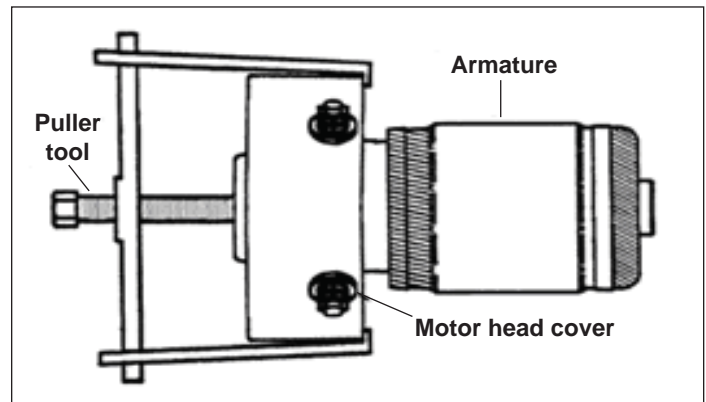

Figure 9-4. Removing Motor Head
- Place puller around the motor head. Use the center of the shaft to locate puller. See Figure 9-4.